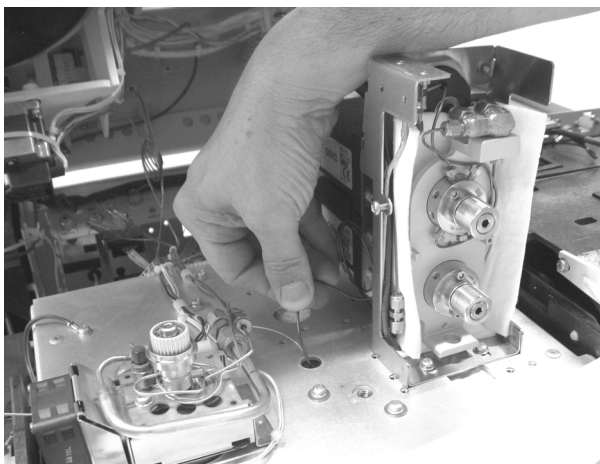

Figure 21 Piercing the oven insulation using the carrier gas tubing
10. Unroll the 1/16" carrier gas tubing on the left-hand side of the GSV assembly and use it to pierce the oven insulation through the nearest access hole for the injector port (Figure 21).